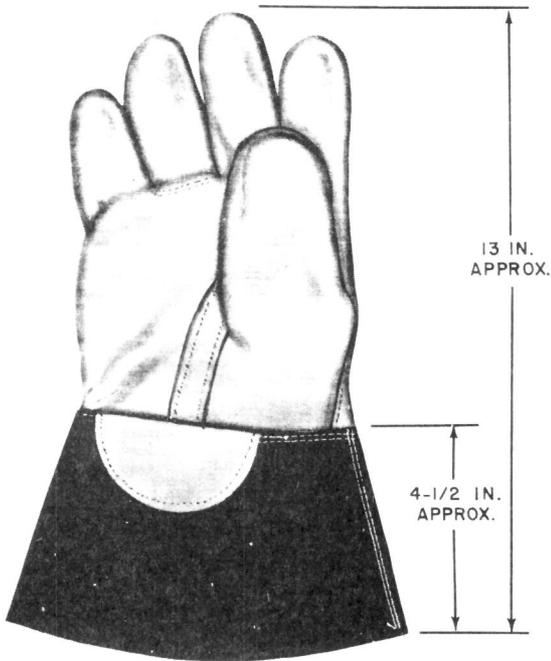

Fig. 2—Leather Protector Glove
4.01 B or C leather protector gloves (Fig. 2) shall always be worn over B, C, or E insulating gloves. Leather protector gloves do not provide protection from electrical shock by themselves and shall never be worn except over insulating gloves. Neither shall they be worn as a substitute for work gloves.